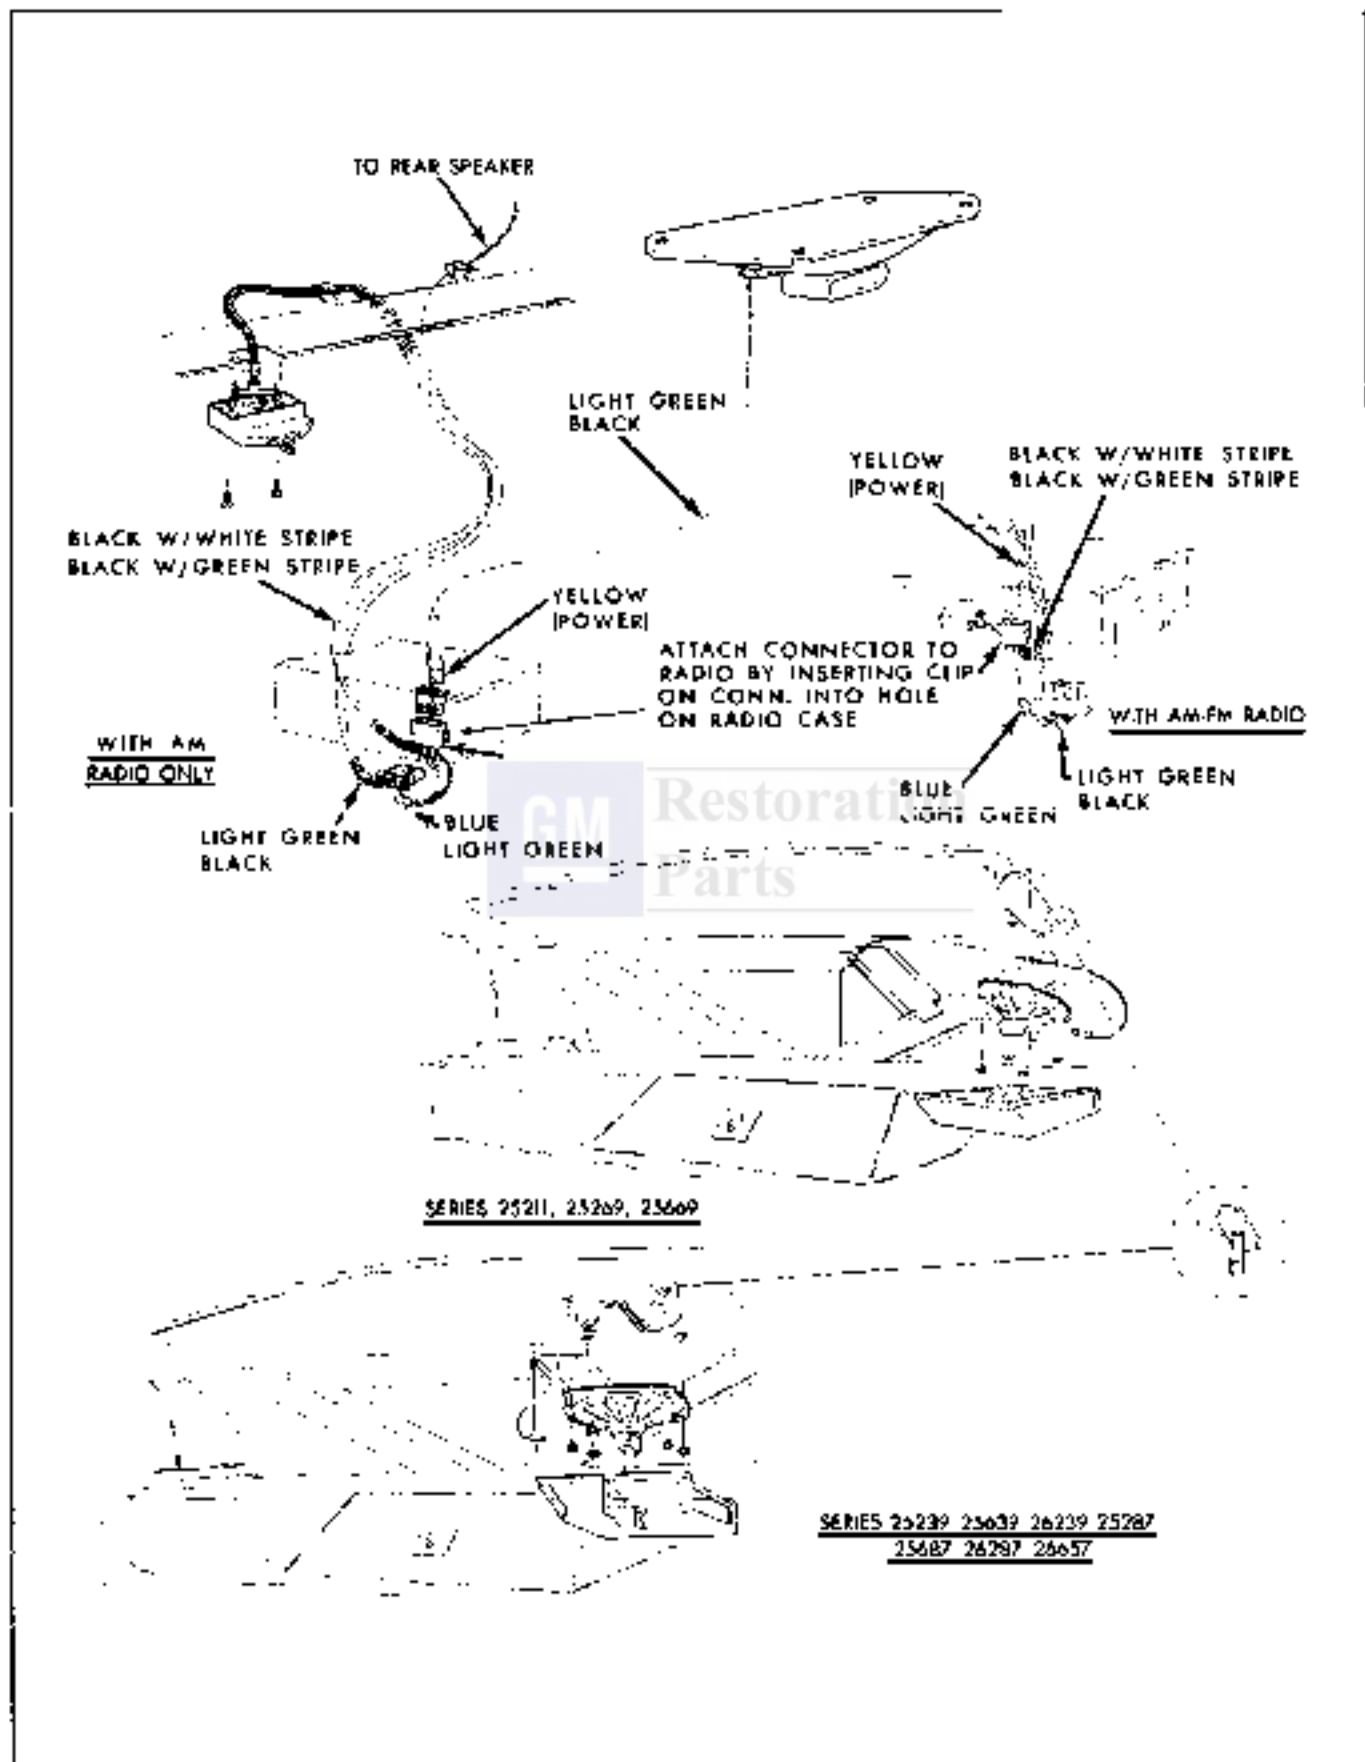

Fig. 15-53 Rear Seat Speaker—Portion.
6. Remove knobs and nuts from trim plate (Fig. 15-53) and remove trim plate.